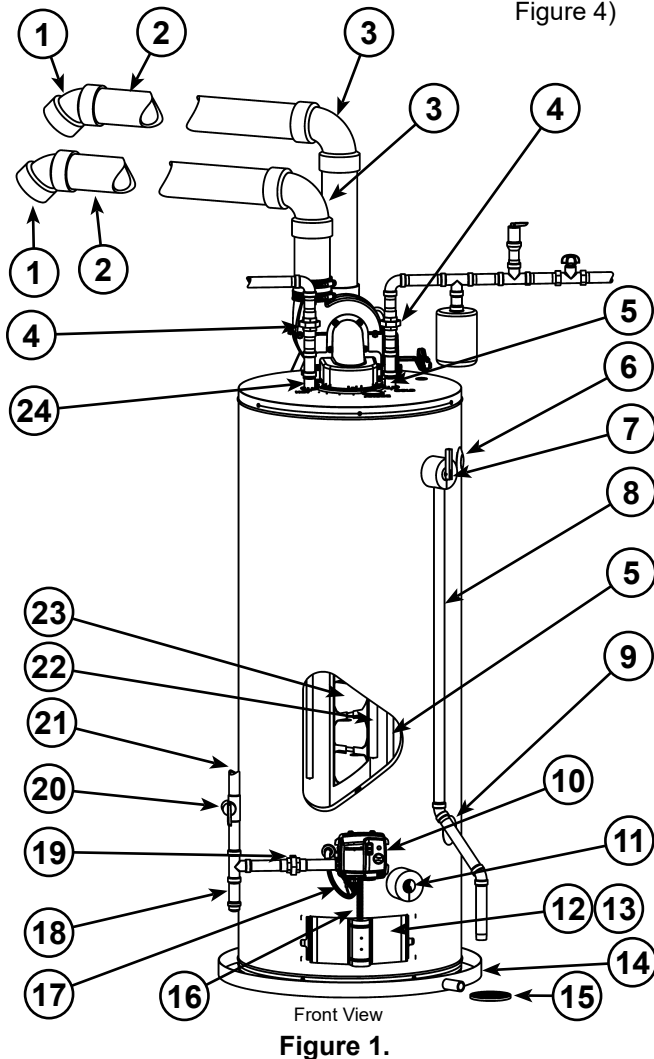

Figure 1.
- † The orifice on Natural gas models has Right-hand thread, the orifice on Propane (LP) models has Left-hand thread.
- †† For Natural gas models the Flare Nut has Right-hand thread. For Propane (LP) models the Flare Nut has Left-hand thread.
Models equipped with Combo Heating capabilities are shipped with the two side plumbing taps **OPEN** (item 6 and item 9 in Figure 1). See also . If the heater is to be operated without using the side taps for combo heating, these openings **must be plugged** with the two pipe plugs supplied with the heaters.
This feature is a part of the gas control valve/thermostat (see Figure 1, item 9) and limits the maximum water temperature. In the event of the water overheating, this safety feature shuts off the fuel supply to the burner.